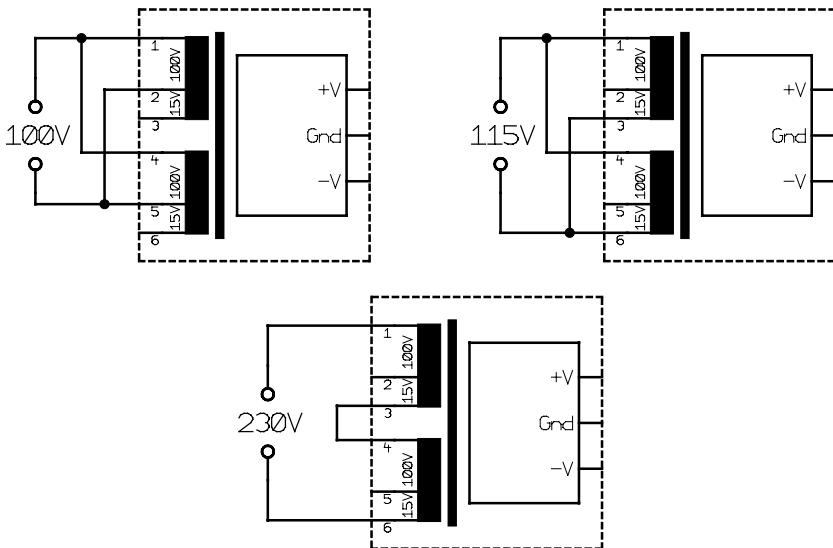
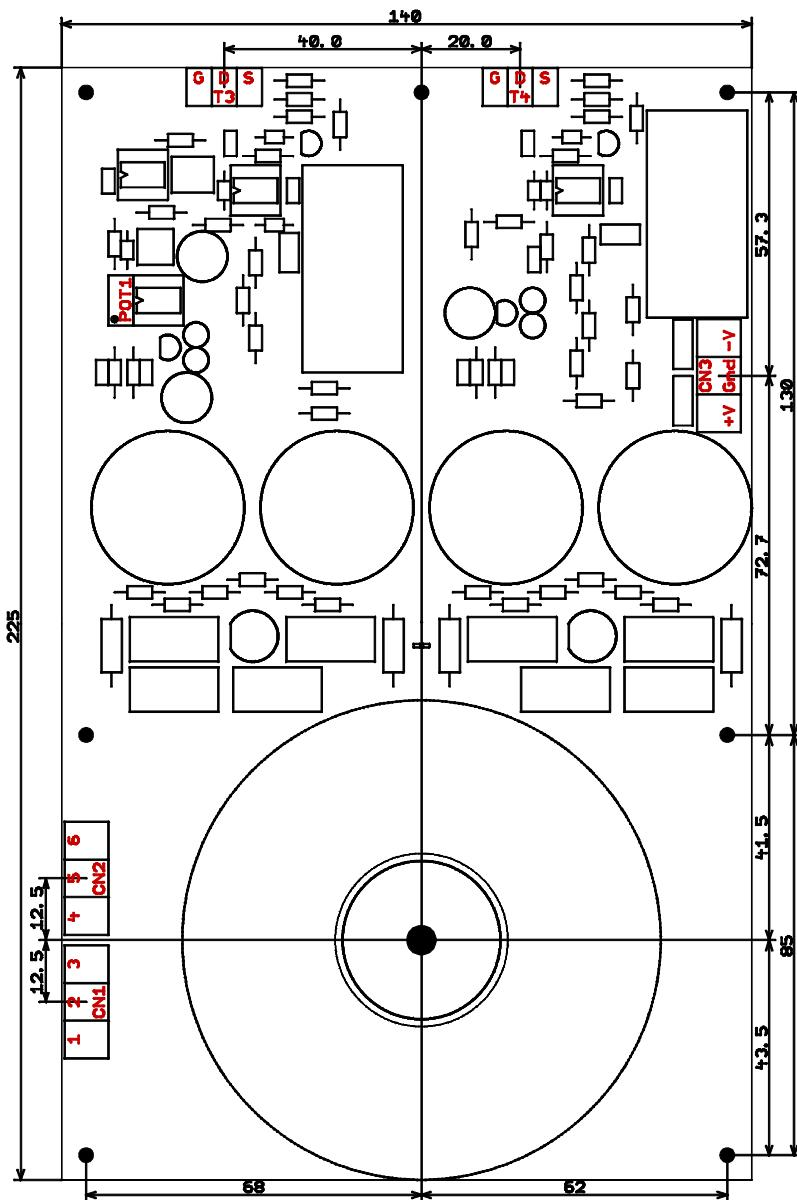
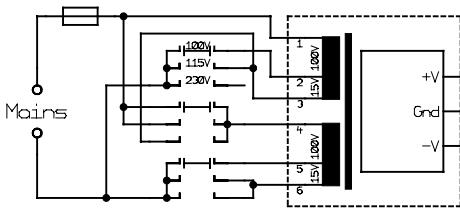
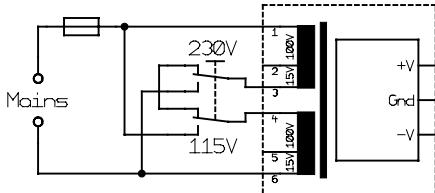

Fig. 1. Connecting modules of the OF-PSU-B series to the local line voltage.
Fig. 2. Connectors and dimensions of the OF-PSU-B modules.
Fig. 19. Switching the nominal value of the line voltage with a voltage selector.
Fig. 20. Switching the nominal value of the line voltage between 115 V and 230 V (USA/Europe) with a voltage selector.
- spacing between the mounting holes: see Fig. 2
Modules of the OF-PSU-B series are equipped with 9 input and output terminals in the form of three clamps (see Fig. 2). The six input terminals (clamps CN1 and CN2) allow setting the device to operation at 100 V, 115 V, or 230 V (see Fig. 1). The stabilized output voltage is connected to the clamp CN3.
Modules of the OF-PSU-B series may be used only with an external heat sink. Before starting up, the module must be mechanically fixed and the power transistors (T3 and T4 in Fig. 2) must be mounted onto an appropriate heat sink with the parts provided with the module. The heat sink must be large enough to be able to dissipate the maximum power loss of the transistor of about 120 W that can occur in the event of a short circuit at both outputs.
Depending on the nominal line voltage, the power cable has to be mounted to the clamps CN1 and CN2 (see Fig. 1). To set the device for the nominal line voltage, a voltage selector can be installed (see Fig. 19 and Fig. 20). Modules of the OF-PSU-B series are intended for use in complex devices and therefore do not themselves contain a line fuse. However, the complete device must be equipped with an appropriate fuse (see Tab. 1).
After switching on the line voltage, the actual output voltage can be set with the potentiometer POT1 (see Fig. 2). During the adjustment, the time constant of the reference circuit of 1.5 seconds must be taken into account. The potentiometer directly controls the positive output voltage; the negative voltage is internally derived from the positive one, and thus does not require any adjustments.
- ! **Caution:** Only schooled personnel may work with this device without a grounded housing. Setting the output voltage (POT1 in Fig. 2) may only be done with insulated tools. There may be high voltage remaining on the capacitors several minutes after the module is shut down.